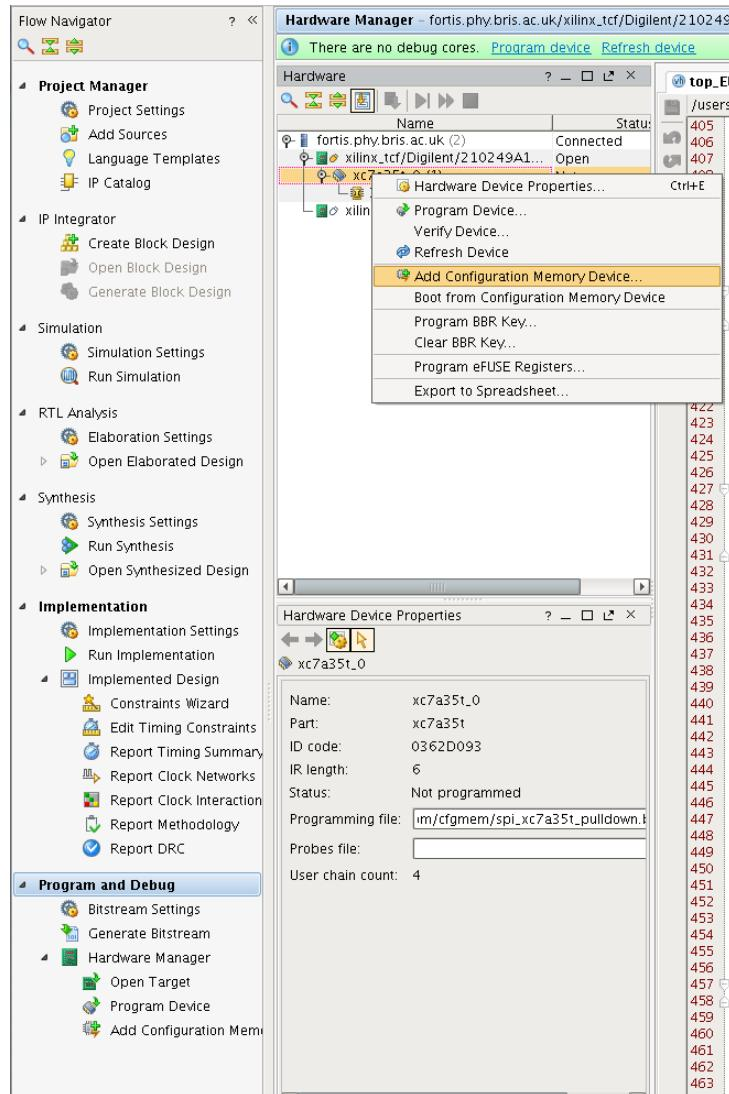
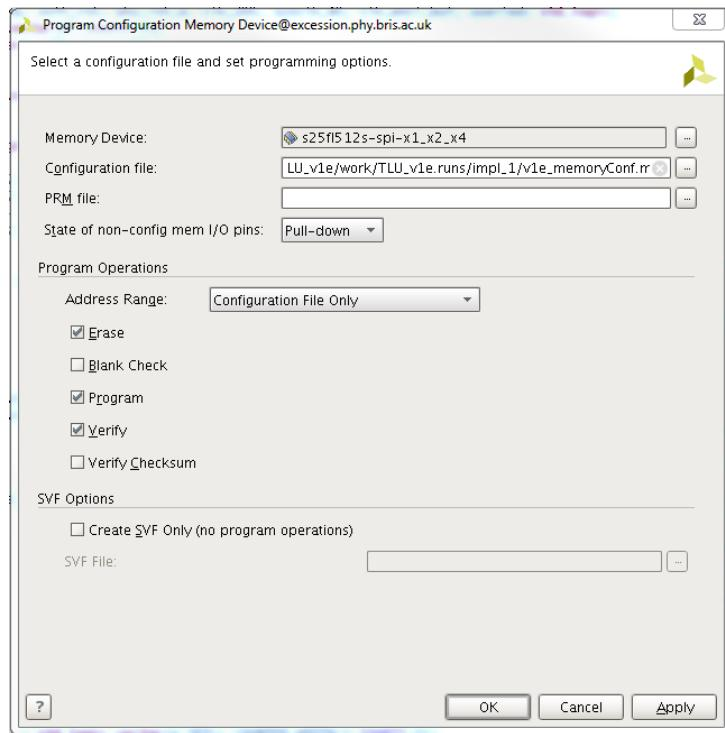

Figure 1.4: Program interface.
Figure 1.5: EEPROM interface.
4. Right click on the **FPGA** (typically xc7...) and select Program device (see figure 1.4)
The procedure to write a permanent program in the **EEPROM** is very similar to the one followed to write a bit stream file, with the exception that the user should select Add configuration memory device in the options, as shown in figure 1.4. This will open a new window, shown in figure 1.5, from which it is possible to indicate the file to use (with extension .mcr).